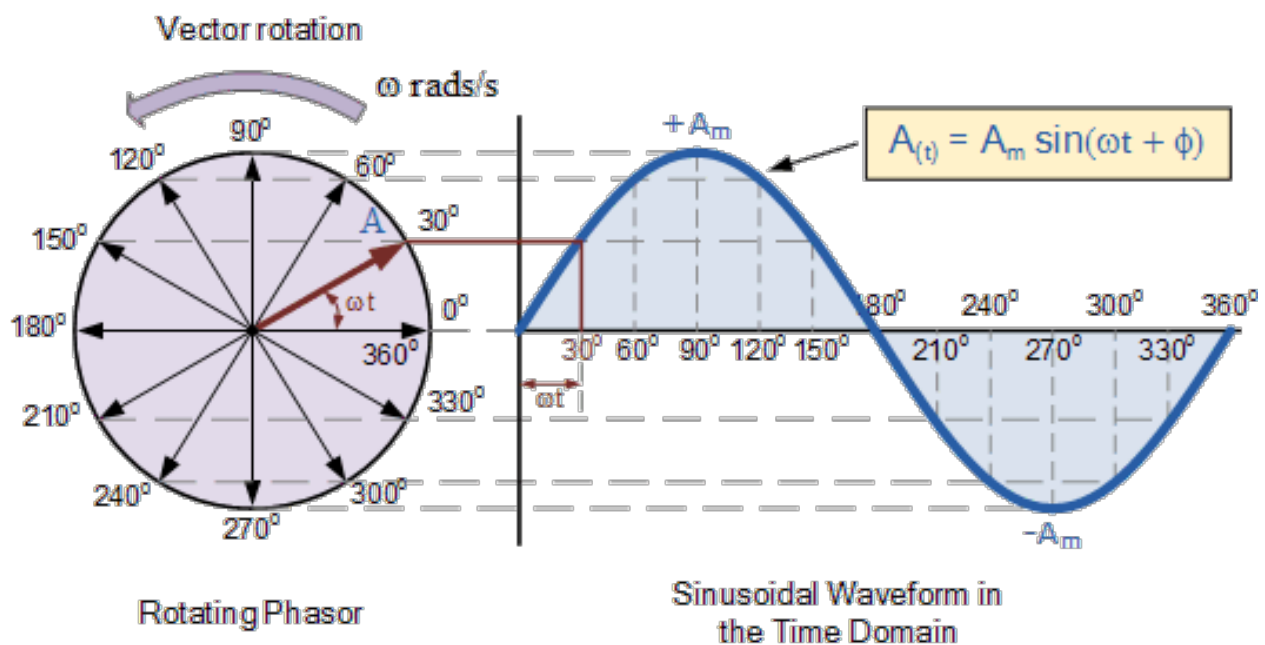

Figure 3: Phasor Diagram
Fortescue developed a special model of a rotating power vector, called a "Phasor", that makes it easier to analyze the differences between two or more waveforms in a three phase system. Power vectors are simply a means of representing the position of an alternating quantity, be it voltage (V) or current (I), at some particular instant in time using the Phasor Diagram depicted in Figure 3.
As Figure 3 illustrates, a Phasor is basically a rotating vector frozen at a point in time. It's length represents an AC quantity that has both magnitude ("peak amplitude") and direction ("phase".) If not frozen in time, Phasors are assumed to pivot at one end around a fixed zero point known as the "point of origin" while the arrowed end representing the quantity, freely rotates in either a counter-clockwise direction (considered to be a positive rotation), or a clockwise direction (considered to be a negative rotation.) A Phasor rotates one full revolution for every sine-wave cycle. Using this method, any alternating quantity, be it voltage (V) or current (I), can be quantified at any instant in time. The power of Fortescue's rotating vector method is that vectors can be summed using basic geometry (the parallelogram law.) After developing Phasors as a means of quantifying voltage (V) or current (I) at any point of time in a three phase system,